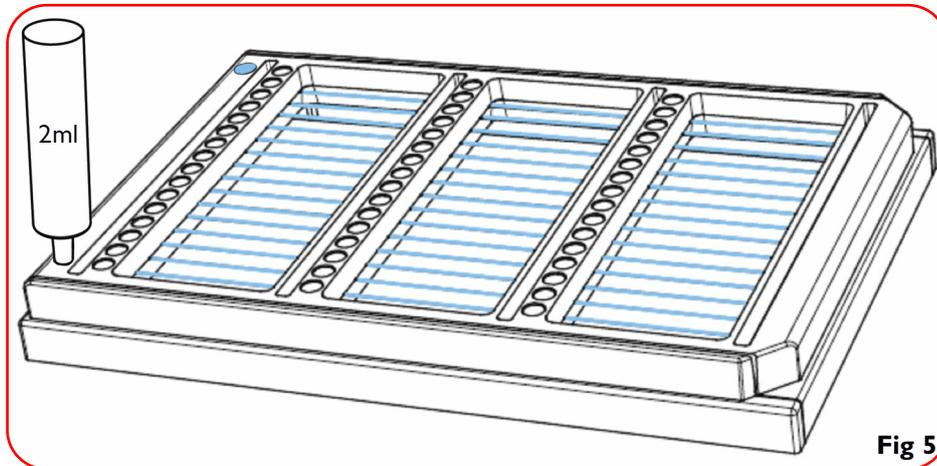

Figure 5
5. In case the protein has run too far through the capillary, indicated by an air bubble in the capillary near the protein loading bay, simply apply vacuum on the original protein loading well. (**Figure 5**).